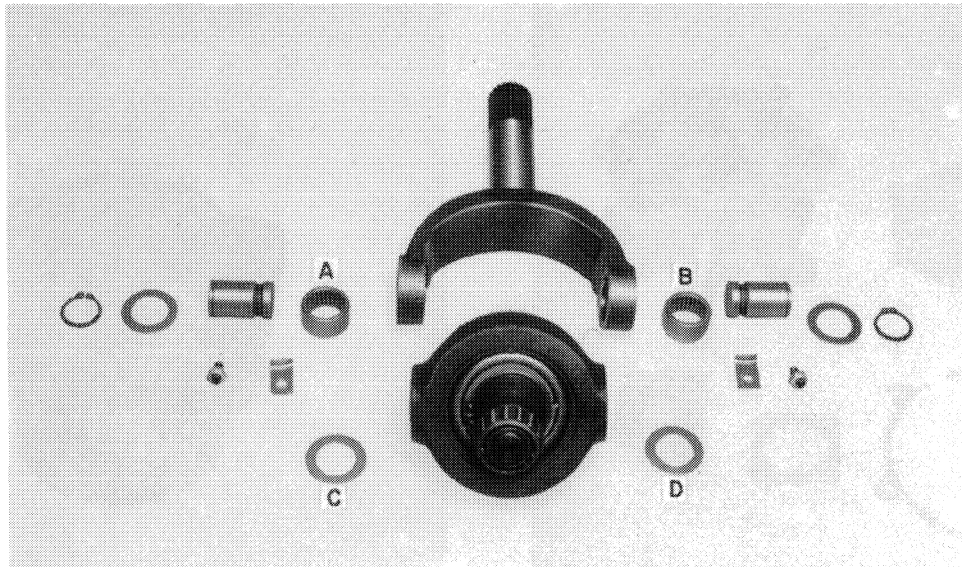

FIGURE 14
6. Press the needle bearings, A and B, Figure 14, out of the yoke.
1. Press the needle bearings, A and B, Figure 14, into the yoke. Always press on the lettered side of the needle bearing. Support
2. Install washers, C and D, Figure 14, inside the yoke and press the grooved pins in. Be sure to support both sides of the yoke to prevent bending of the yoke. The pins are installed with the grooved end to the inside. The groove must line up with the setscrew hole.